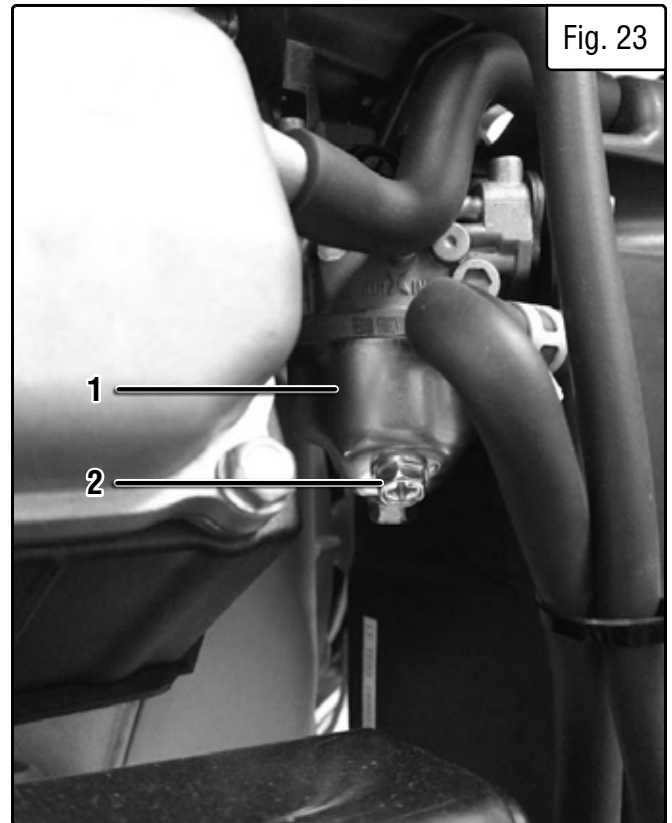

Fig. 23
1. Locate the carburetor (Fig. 23 - 1). It can be accessed on the back of the generator, right beside the air filter.
4. Open up the carburetor drain screw (Fig. 23 - 2) with a Phillips screwdriver. Fuel will start draining from the carburetor and fuel tank through the funnel.